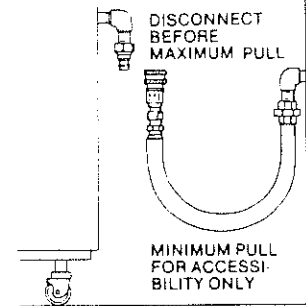

FIGURE 1
If the machine is installed on a movable stand; (1) the installation must be made with a connector that complies with the Standard for Connectors for Movable Gas Appliances, ANSI Z21.69-1987, and a quick disconnect device that complies with the Standard for Quick-Disconnect Devices for Use With Gas Fuel, ANSI Z21.41-1978, and Addenda, Z21.41a-1981 and Z21.41b-1983, and (2) adequate means must be provided to limit the movement of the appliance without depending on the connector and any quick-disconnect device or its associated piping to limit the appliance movement. (See figures 1 and 2 page 5).